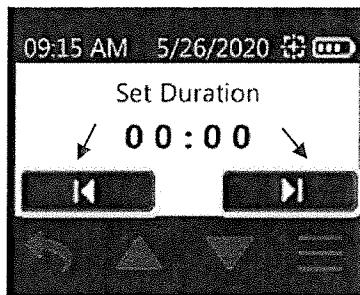

Figure 34. Left/Right and Up/Down Buttons
- Hour digit 1 will flash. Touch up/down arrow buttons to increment/decrement hour. Touch right arrow to advance to hour digit 2 (will flash) and up/down arrow buttons to adjust hour digit 2. Repeat through minutes (Figure 34).